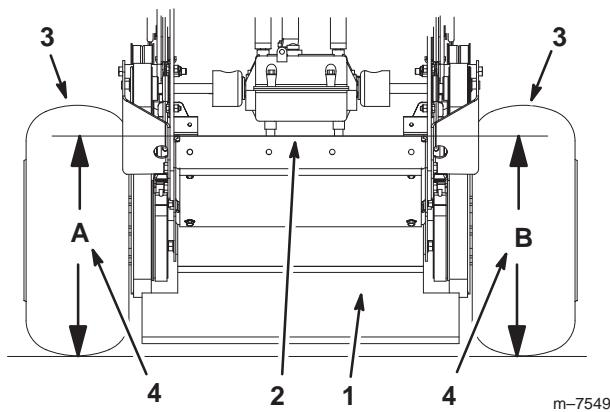

Figure 55
4. Measure engine deck height at location A (Fig. 55).
5. Measure engine deck height at location B (Fig. 55).